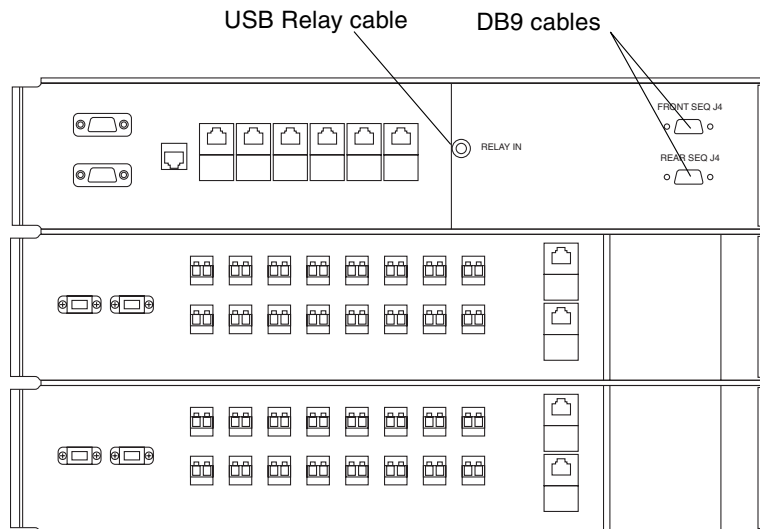

FIGURE B-2 Connections for the Front and Rear Power Sequencers on the Inside of the Base Cabinet Service Panel
2. Locate the two DB9 cables that are loosely tied off close to the relay panel on the back of the service panel. Connect the cable labeled J14 to PP Front Seq J14 In to the FRONT SEQ J14 connection, and the cable labeled J14 to PP Rear Seq J14 In to the REAR SEQ J14 connection on the back of the service panel (FIGURE B-2).